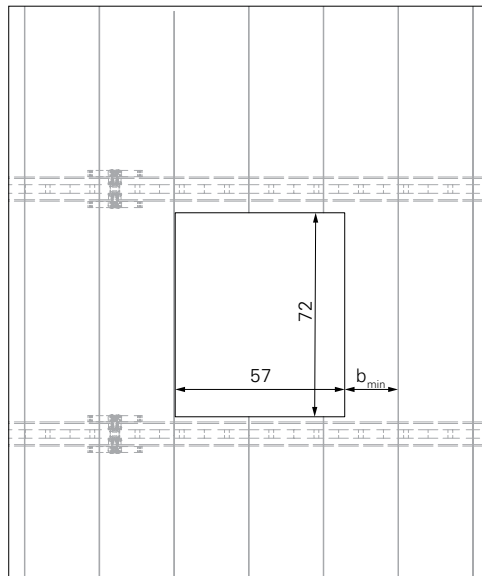

Fig. B3.05
1. At the assembly position, cut out one opening. Opening: 72 x 57 cm. (Fig. B3.05)